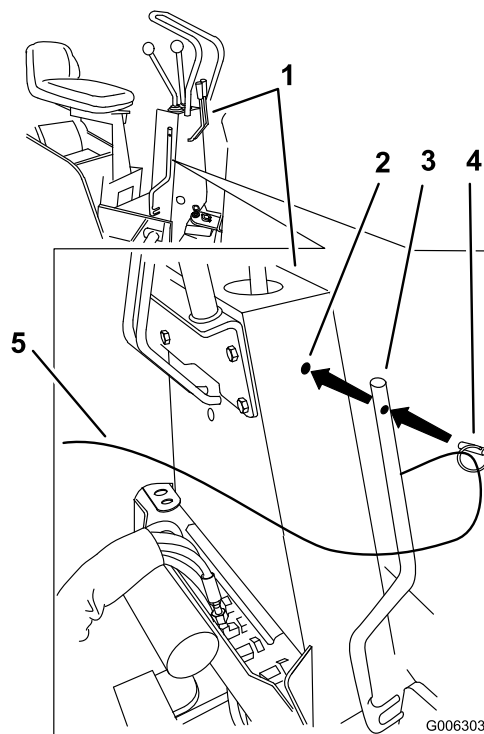

Figure 8
2. Secure the clamp on the control console side with the holding pin attached to the lanyard (Figure 8).